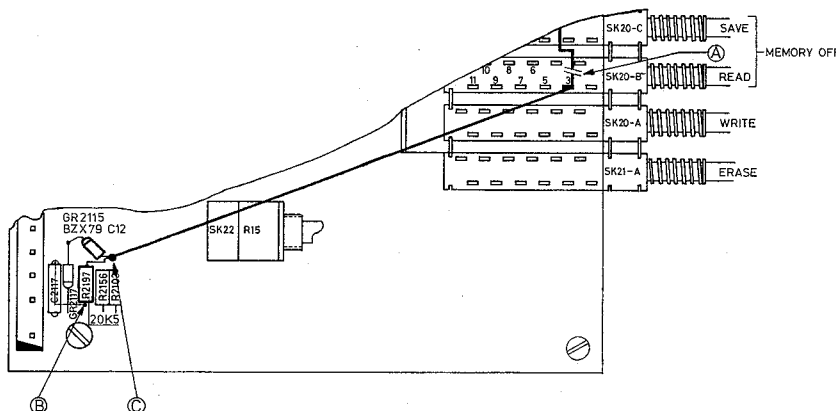

Fig. 1. Part of variable persistence and storage unit.
2. Interrupt the track (on the track-side of the p.w.b.) between point 3 of SK20B (READ) and the anode of GR2117 as indicated in fig. 1 (A)
4. Solder one side of a resistor of 20k5 (5322 116 55255) on the point, which is connected with C2117 as indicated in fig. 1 (B) (on the component side of the p.w.b.)
5. Solder between the resistor of 20k5 and the anode of the zenerdiode GR2117 a zenerdiode (GR2115) BZX 79 C12 (4822 130 34197). The cathode of GR2115 to the anode of GR2117 (see fig. 1)
6. Mount an interconnection wire between the anode of GR2115 (fig. 1 (C)) and point 3 of the switch SK20B (READ)
This neon-tube can only be replaced by a temperature independent circuit (see fig. 1), to get a stabilised voltage drop between the cathode and g1 of the c.r.t.